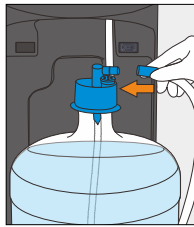

Figure 42
21. Remove red protective cap from the blue tube of the SmartFlo™ Water Cartridge and install onto the bottle adaptor assembly (Figure 42)